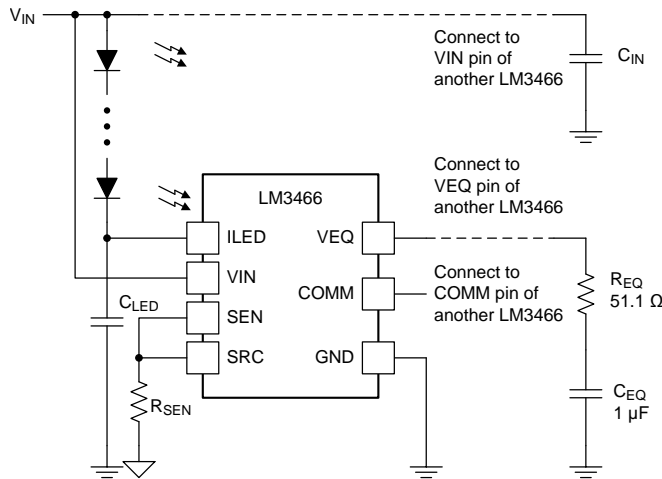

Figure 13. A Single LM3466 within a Lighting System
The LM3466 integrates a current regulator to control the current of a connected LED string. The current is delivered from the supply through the LED string, the ILED pin, the integrated power MOSFET, the SRC pin, and the sensing resistor R_{SEN} connecting from the SRC pin to ground as shown in Figure 13. The sensing resistor voltage is fed back to the LM3466 through the SEN pin, either by direct connection or through an extra resistor R_{SL} . The device regulates the voltage of the SEN pin (V_{SEN}) to a voltage set by its control block. If the sensing resistor of each LM3466 ($R_{SEN,k}$, $k = 1, 2, \dots, n$) is the same, the LED current of each active LED string is the same. If $R_{SEN,k}$ of any device is different from others, the corresponding LED current ($I_{LED,k}$) is different, while V_{SEN} of each LM3466 remains the same as others. The LED current of string k is shown in Equation 1.
- Changed updated Figure 13 9